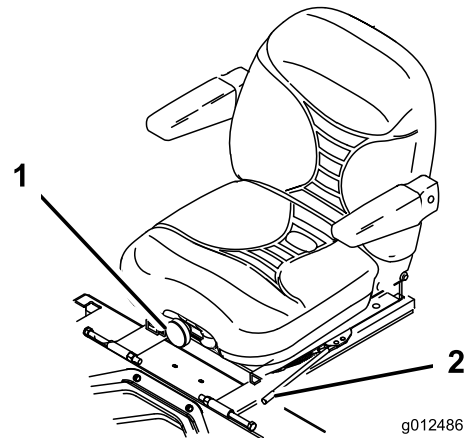

Figure 30
1. To adjust, move the lever sideways to unlock seat (Figure 30).
To adjust it, turn the knob in front either direction to provide the best comfort (Figure 30).